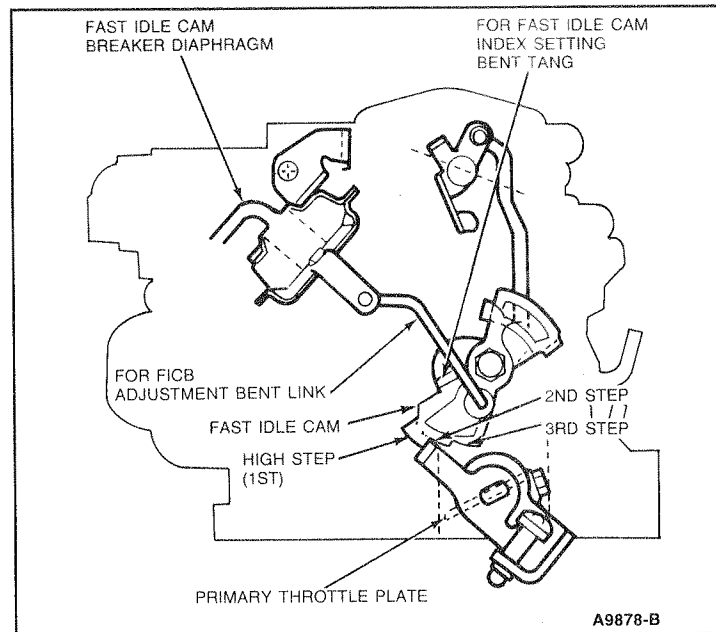

Figure 3 Fast Idle Cam Index Fast Idle Cam Breaker
Refer to Figure 3.
1. Position the fast idle screw on the second step of the fast idle cam against the shoulder of the high step. Refer to Figure 3.
3. If required, adjust by bending the tang as shown in Figure 3.
### D. Fast Idle Cam Breaker Adjustment (FICB). Refer to Figure 3.
3. Apply 18 in-Hg minimum to the FICB motor (Figure 3).